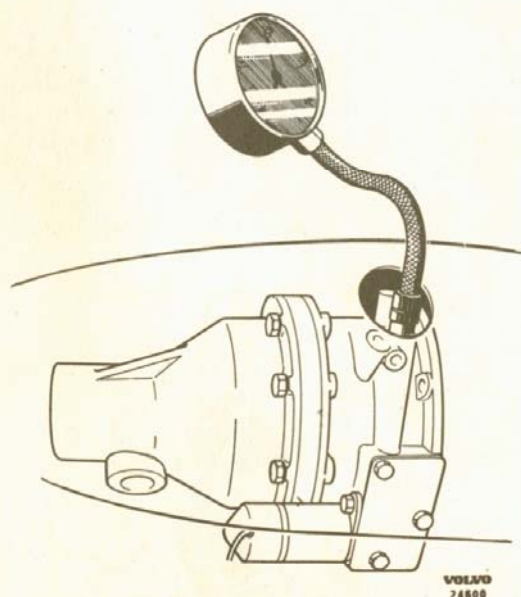

Fig. 3-40. Checking oil pressure with pressure gauge SVO 2415
2. Remove the plug over the control valve and connect oil pressure gauge SVO 2415, see Fig. 3-40.